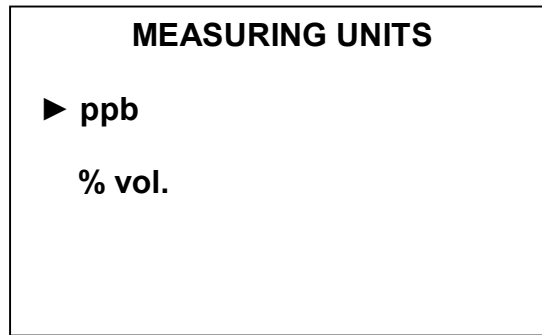

Fig. 2.22
- 1 Move the marker to **MANUAL** command and depress the key . The display shown in Fig. 2.22 shall come up.